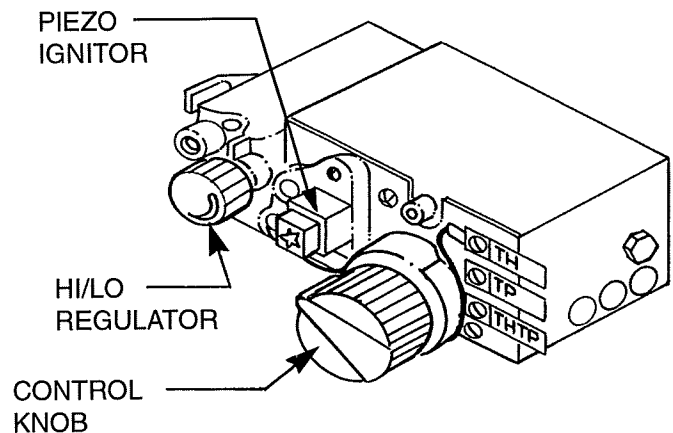

Figure 40
### 750 Millivolt System (Figures 40 and 41)
**NOTE:** The gas control valve allows you to increase or decrease the height of the main burner flame. The control valve has a pressure regulator with a knob as shown in Figure 40. Rotate the knob clockwise to "HI" to increase the flame height and counterclockwise to "LO" to decrease the flame height.